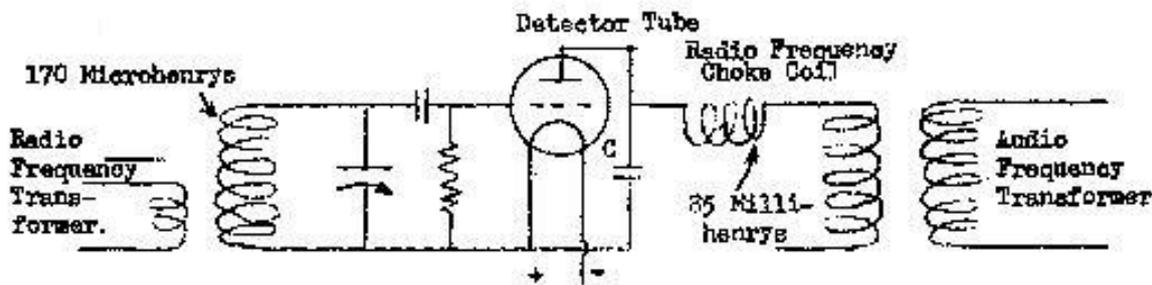

FIGURE 27.
In Figure, 26 we have part of a transformer coupled audio frequency amplifier showing the coupling transformer between two amplifying tubes. Although this arrangement does not conform to modern practice we have included it with a view to providing a simple example of impedance calculation. The same remarks may be made regarding the circuit diagram of Figure 27. This also is not typical of modern practice but has again been included as a concession to simplicity. The primary winding of this transformer has an inductance of 60 henrys. Supposing we are amplifying a musical note having a frequency of 500 cycles, to calculate the
This shows you what very great opposition we have to alternating currents of audio frequencies when our coil has plenty of inductance. The circuits used around a detector tube are shown In Figure 27. On the left of the detector we have a radio frequency transformer in which the secondary coil or winding has an inductance of 170 microhenrys. To calculate the reactance of this coil at a broadcasting frequency of 1000 kilocycles we will use formula (5) and fill in the values given:
Over at the right hand side of the detector tube in Figure 27 you will see a radio frequency choke coil having an inductance of 85 millihenrys. Let's figure out the opposition or reactance of this coil to radio frequency currents having the frequency of 1000 kilocycles. Here we will use the formula (4) and fill in the values this way.
The purpose of the radio frequency choke coil is to prevent currents at radio frequencies from going over into the audio frequency transformer. You can see that this very high reactance of 530,000 ohms would certainly hold back these radio frequency currents and would force them to pass through the condenser marked "C" in figure 27. The reactance of the choke coil to audio frequency currents from the detector would be very low and these currents would go over into the audio frequency transformer.